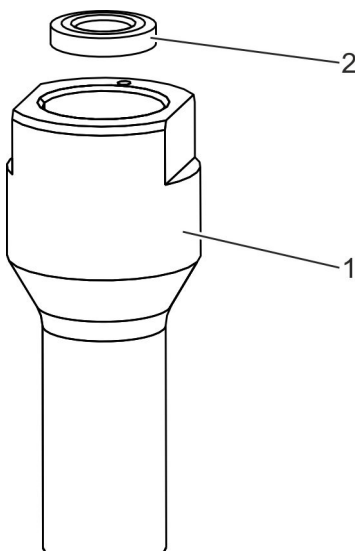

Fig. 16: Removing the pressure ring
9. ➤ Remove the pressure ring (Fig. 16/2) from the pipe nozzle (Fig. 16/1).
11. ➤ Insert a new pressure ring (Fig. 16/2) into the pipe nozzle (Fig. 16/1).